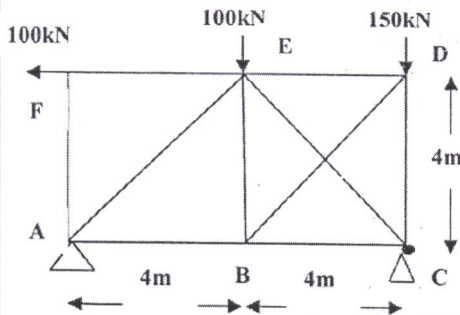

Figure 5.1
5. Find the forces in the member of the truss loaded and supported as shown in figure 5.1